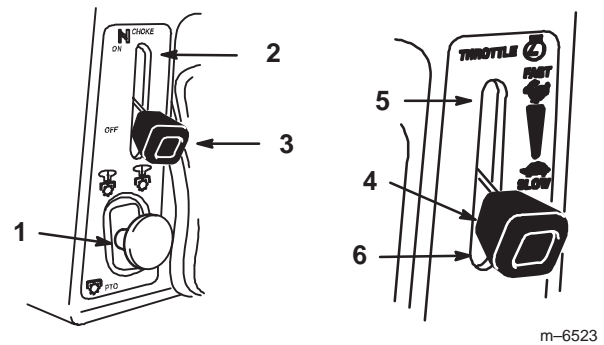

Figure 4
3. Push the PTO (power take off) to the off position (Fig. 4).
4. Move the choke lever to the on position (Fig. 4).
5. Move throttle lever to the fast position (Fig. 4).
7. After the engine starts, move the choke lever to off (Fig. 4). If the engine stalls or hesitates, move the choke lever back to **on** for a few seconds. Then move the throttle lever to desired setting. Repeat this as required.
1. Push the PTO (power take off) to off (Fig. 4).
2. Move the throttle lever between half and full throttle (Fig. 4).